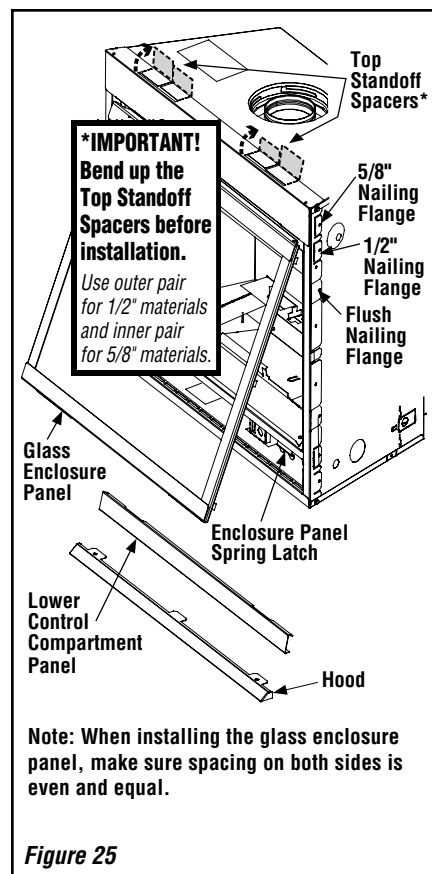

Figure 25
1. Refer to **Figure 25**. Position the glass enclosure panel in front of the firebox opening, with the bottom of the enclosure panel held away from the fireplace. Hook the top flange of the enclosure panel frame over the top of the firebox frame.
1. Refer to **Figure 25**. To access the spring latches securing the front glass enclosure panel, open the lower control compartment door by lifting and pulling the bottom panel forward.
- 4 - **Refer to Figure 25 on Page 20.** Open both latches under the firebox floor securing the glass enclosure panel. Remove the panel by tilting it outward at the bottom and lifting it up. Set aside the panel, taking care to protect it from damage.